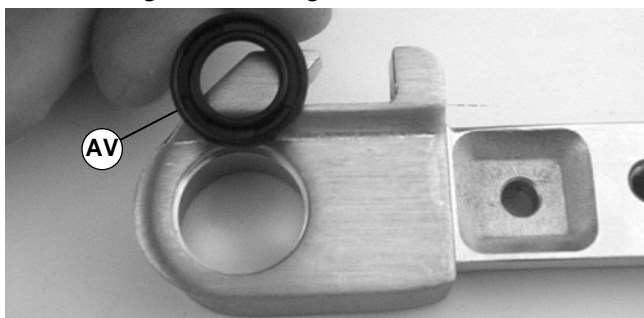

Figure 42
3. Install new seal (part # 807-1016) with grooved surface (AV of Figure 42) facing out.